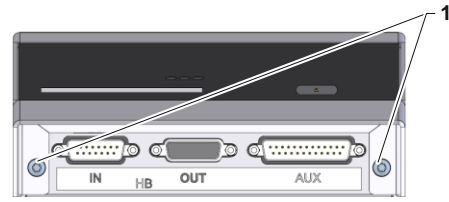

Fig. 6: Front side of the evaluation unit
- Attach screws (Label 1 → Fig. 6).